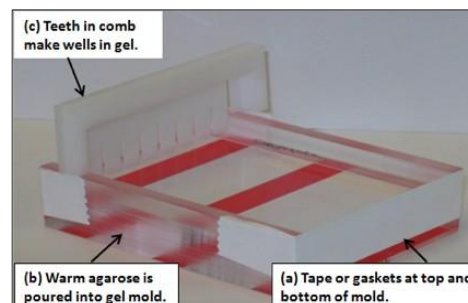

Fig 2: Procedures for Pouring an Agarose DNA Gel.
7. Ask the instructor about the proper procedure for pouring a gel with the gel apparatus you are using. This will usually involve the following steps (See **Fig. 2**):